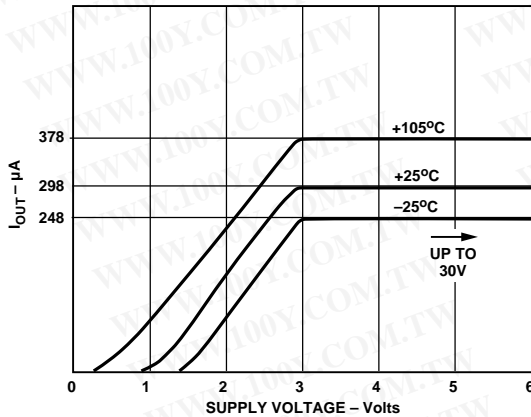

Figure 1. V-I Characteristics
The AD592 uses a fundamental property of silicon transistors to realize its temperature proportional output. If two identical transistors are operated at a constant ratio of collector current densities,  $r$ , then the difference in base-emitter voltages will be  $(kT/q)(\ln r)$ . Since both  $k$ , Boltzman's constant and  $q$ , the charge of an electron are constant, the resulting voltage is directly Proportional To Absolute Temperature (PTAT). In the AD592 this difference voltage is converted to a PTAT current by low temperature coefficient thin film resistors. This PTAT current is then used to force the total output current to be proportional to degrees Kelvin. The result is a current source with an output equal to a scale factor times the temperature (K) of the sensor. A typical V-I plot of the circuit at +25°C and the temperature extremes is shown in Figure 1.